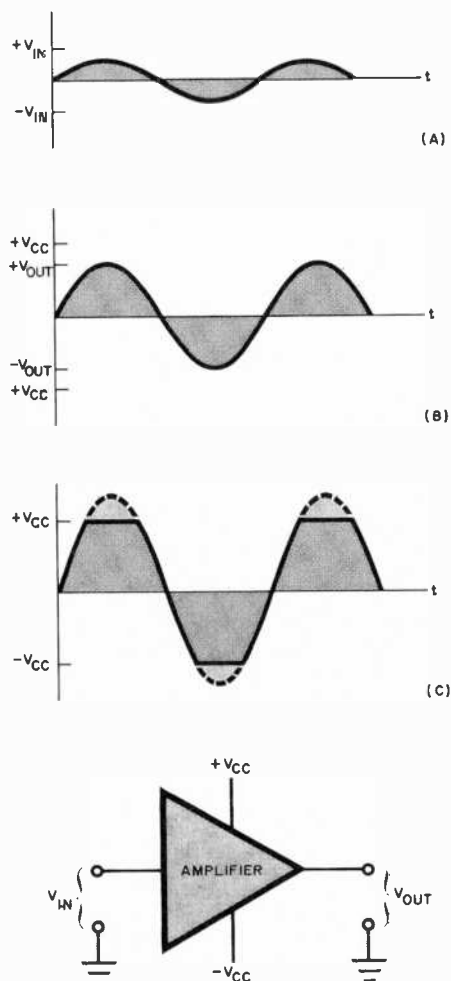

Fig. 1. If input amplitude (A) or gain of amplifier is not excessive, output is not clipped (B). Increasing one or both causes amplifier to clip the output (C).
**What Is Clipping?** When an audio amplifier is overdriven, it "clips" the input signal. The process is shown graphically in Fig. 1. A power amplifier is driven by a sinusoidal input signal having maximum positive and negative amplitudes of  $+V_{IN}$  and  $-V_{IN}$ , respectively (Fig. 1A). The amplifier generates an output signal that is (ideally) an exact replica of the input except for its increased amplitude.